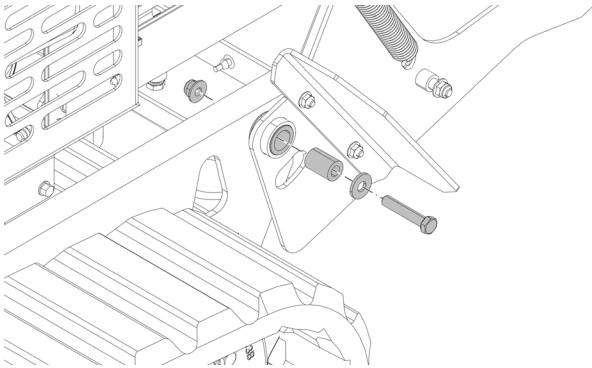

Figure 1-3. Footplate Installation
4. Secure the footplate assembly to the left side of the machine using one (1) cap screw (P# 04001-45), one (1) flat washer (P# 04041-07), one (1) spacer (P# 43572), and one (1) locknut (P# 04117-02). Repeat on the right side of the machine. See Figure 1-3.